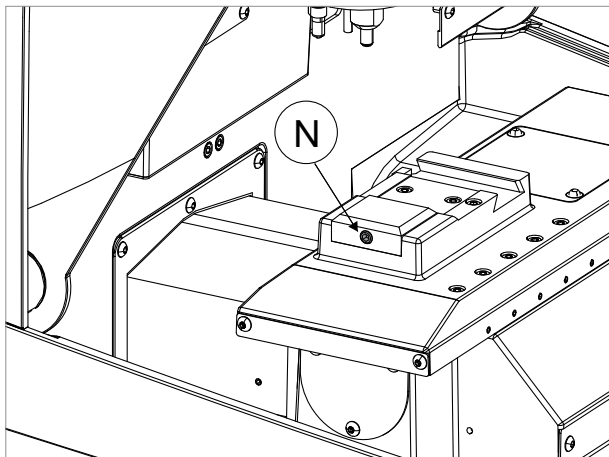

Fig. 23
- 1) Loosen the grub screw (N).(Fig. 23)